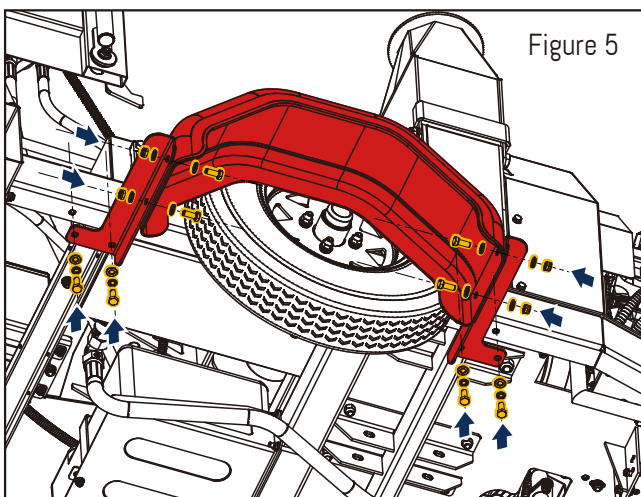

Figure 5
Attach the mudguard to mudguard bracket 1 and mudguard bracket 2 using M10x25 bolts, flat washer (10), and lock nut (M10). (See Figure 5)